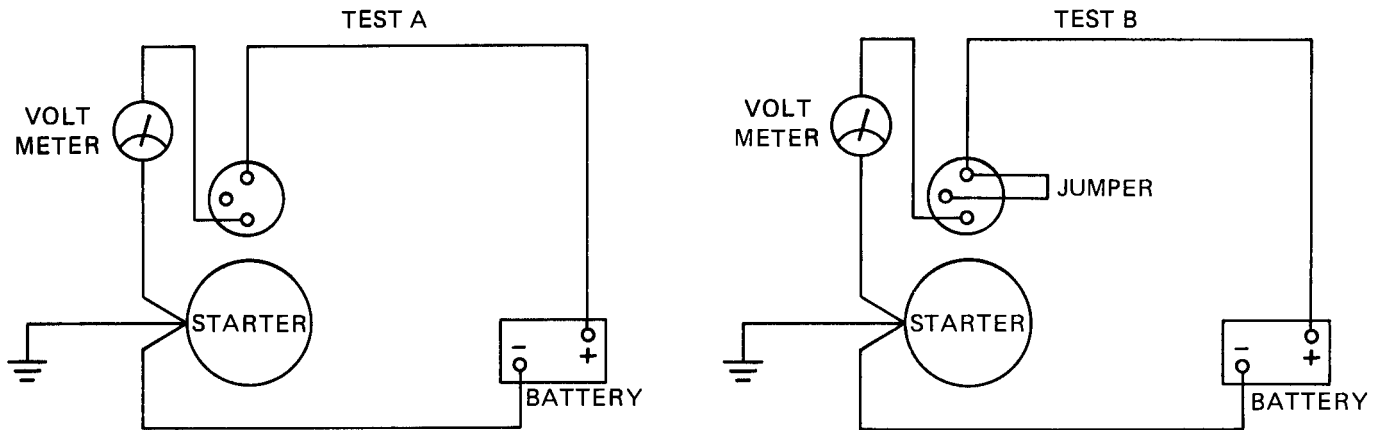

Figure 4-39. Starter Solenoid Test Circuit.
4-48. STARTER ASSEMBLY. (See Figures 4-39 and 4-40)
- (1) Make sure the batteries are fully charged and that all battery and starter cables are serviceable and properly installed.
- (2) Connect a voltmeter as shown in Figure 4-39 - Test A. If voltage is indicated, solenoid is defective.
- (3) Momentarily connect a jumper as shown in Figure 4-39 - Test B. Voltmeter should indicate battery voltage and starter should crank the engine. If voltmeter does not read battery voltage, the solenoid is defective. If the voltmeter indicates battery voltage, but starter does not operate, the starter is defective.